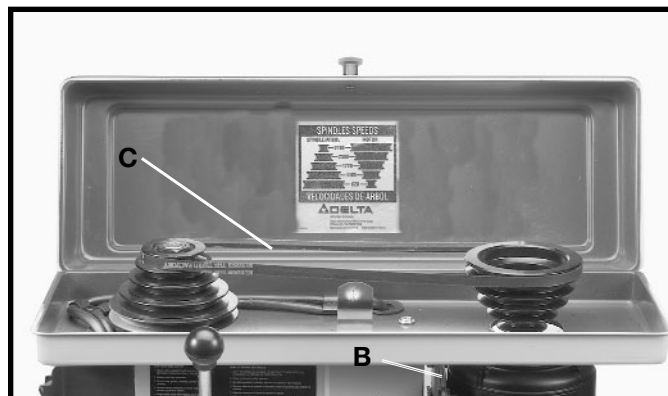

Fig. 30
5. After the belt is positioned on the desired steps of the motor and spindle pulleys, pivot motor away from the drill press head until the belt is properly tensioned and tighten tension lock knob (B) Fig. 30. The belt should be just tight enough to prevent slipping. Excessive tension will reduce the life of the belt, pulleys and bearings. Correct tension is obtained when the belt (C) can be flexed about one inch out of the line midway between the pulleys using light finger pressure.